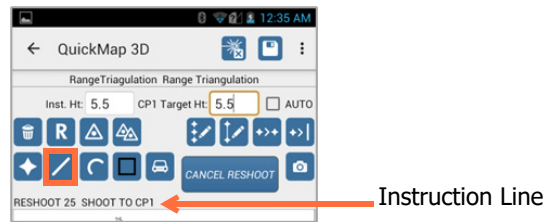

Figure 46
The Reshoot button **R** is located in the toolbar in the upper left area of the Data Collection screen (Figure 46) in all mapping methods. To re-shoot a point other than the last point measured, see Point Detail on Page 62.
1. Tap the Reshoot button (Figure 46). Notice the Cancel Reshoot button has displayed, tap this button to abandon the operation at any time.